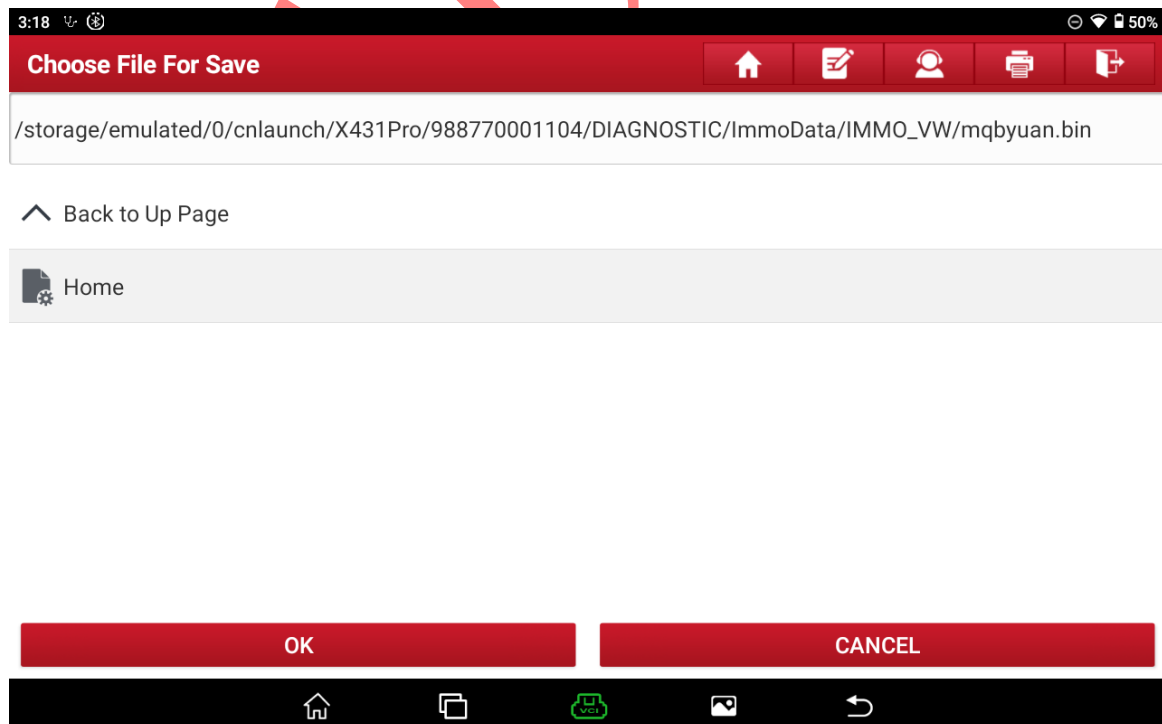

Figure 18
17. Select the save path and select OK, as shown in Figure 18.